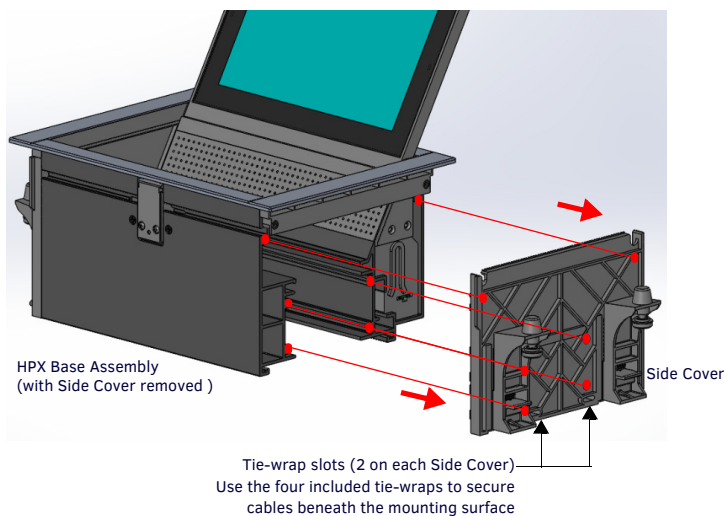

FIG. 1 REMOVING THE SIDE COVER
1. Remove the 6 Philips-head Mounting Screws that secure the Side Cover to the HPX base assembly (FIG. 1):
2. Gently lift one end of the Side Cover to free it from the enclosure, then carefully pull the opposite side to remove it. Note that with the Side Cover removed, the mounting rails (inside the enclosure) are accessible (see FIG. 1).
Note: Use the tie-wrap slots provided on the lower edge of each of the Side Covers (see FIG. 1) to secure cabling to the HPX and modules, via the four included tie-wraps.